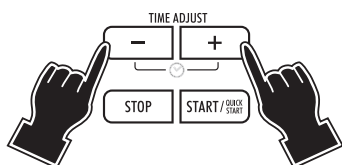

fig. 6
- 9) **Do not microwave cook eggs in their shells** (fig. 6). Pressure will build up inside and can cause the egg to explode, even after cooking has finished. Do not heat eggs cooked in their shells. Heat scrambled eggs only.